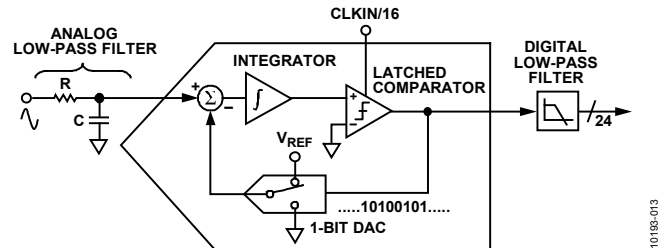
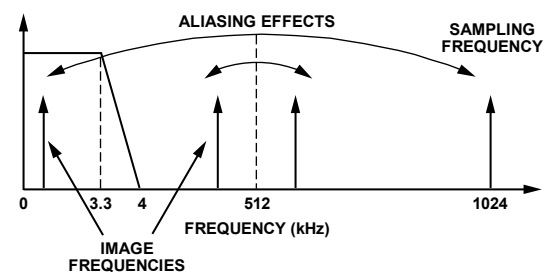

Figure 39. First-Order Σ - Δ ADC
Figure 41. Aliasing Effects
For simplicity, the block diagram in Figure 39 shows a first-order Σ - Δ ADC. The converter is composed of the Σ - Δ modulator and the digital low-pass filter.
Figure 39 also shows an analog low-pass filter (RC) on the input to the ADC. This filter is placed outside the ADE7880, and its role is to prevent aliasing. Aliasing is an artifact of all sampled systems as shown in Figure 41. Aliasing means that frequency components in the input signal to the ADC, which are higher than half the sampling rate of the ADC, appear in the sampled signal at a frequency below half the sampling rate. Frequency components above half the sampling frequency (also known as the Nyquist frequency, that is, 512 kHz) are imaged or folded back down below 512 kHz. This happens with all ADCs regardless of the architecture. In the example shown, only frequencies near the